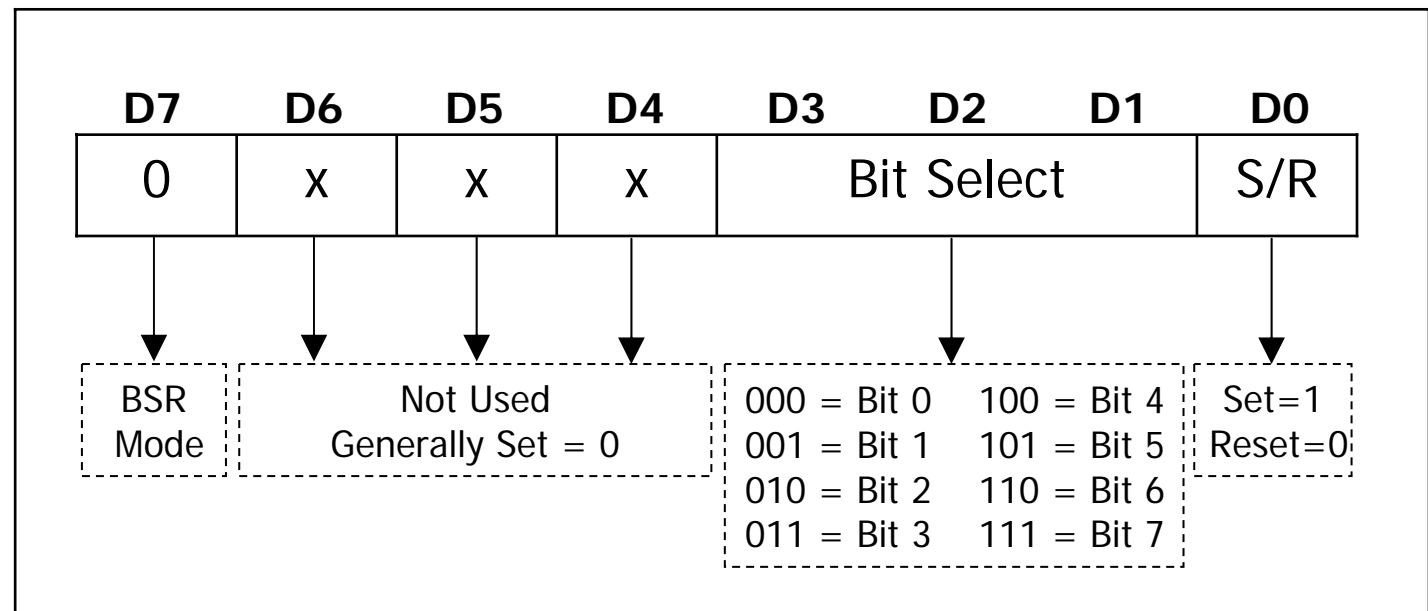

Figure 15-12. BSR Control Word
- BSR mode allows one to set to high or low any of the PC0 to PC7, see figure 15-12.